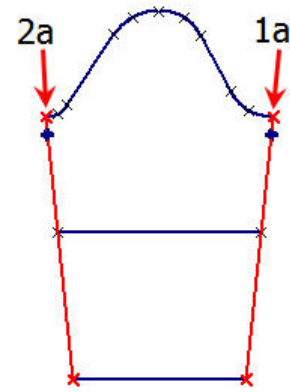
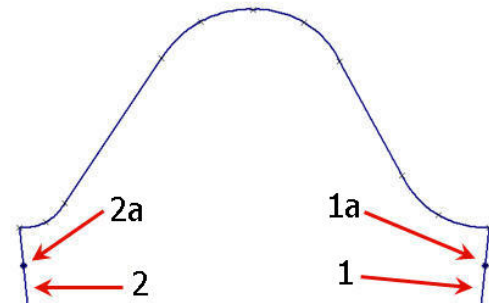

Figure 7. Locate points
Figure 8. Break front and back underarm lines
1. Choose File/Open (FO) and open the Tapered\_Sleeve\_Sloper from the Patterns/Sleeves folder.
3. Select the front underarm line and choose Locate Points (LP) (Fig. 7).
4. SNAP to point 1a, enter 1 (2.5 cm) for the single point distance and press Apply (Fig. 7).
5. Select the back underarm line and choose Locate Points (LP) (Fig. 7).
6. SNAP to point 2a, enter 1 (2.5 cm) for the single point distance and press Apply (Fig. 7).
7. Choose Zoom Window (ZW) and drag a zoom window around the sleeve area.
8. Choose Scissors (BR) and CLICK on line 1, the front underarm line (Fig. 8).
9. SNAP twice to point 1a to break the line (Fig. 8).
10. Choose Scissors (BR) and CLICK on line 2, the back underarm line (Fig. 8).
11. SNAP twice to point 2a to break the line (Fig. 8).